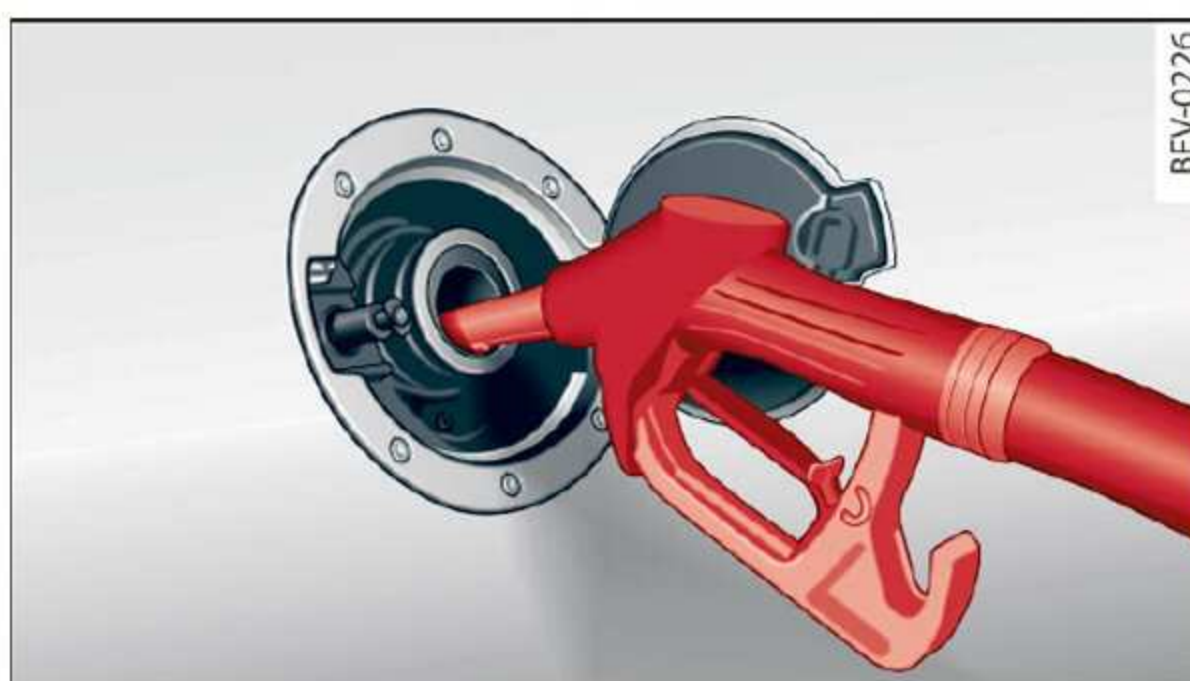

Fig. 167 Right rear side of the vehicle: fuel pump nozzle inserted
- ▶ Insert the fuel pump nozzle all the way into the fuel tank filler neck ⇒ *fig. 167*. Make sure it is seated correctly.